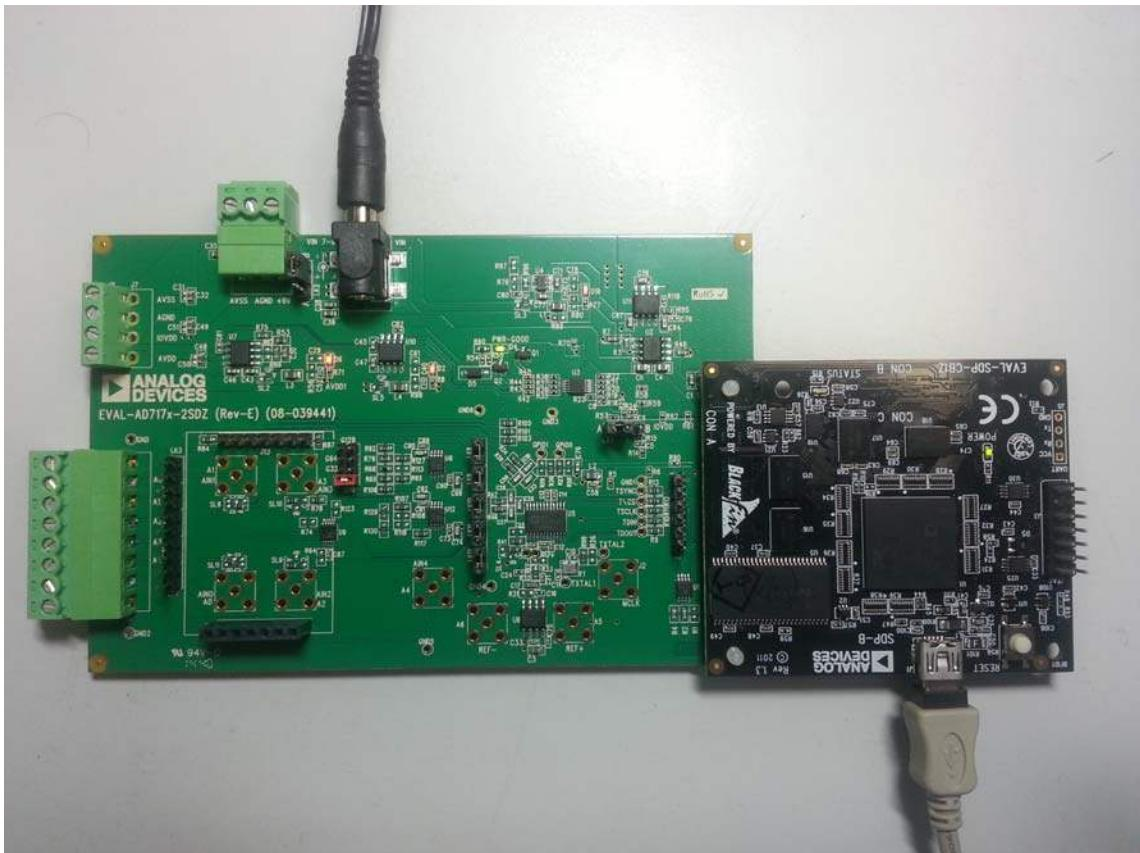

Figure 2. Hardware Configuration, Setting Up the EVAL-AD7177-2SDZ Evaluation Board
4. Connect the SDP-B board to the EVAL-AD7177-2SDZ evaluation board, as shown in Figure 2.
6. Connect the external 9 V power supply to the J5 connector of the evaluation board as shown in Figure 2. Set Link LK2 to Position B.